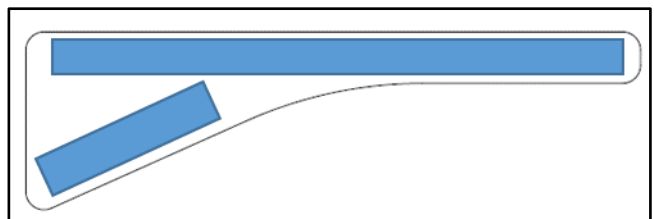

Figure 2
6. Attach the double-sided tape to the other side of the second plastic part. (Refer to Figure 2.)